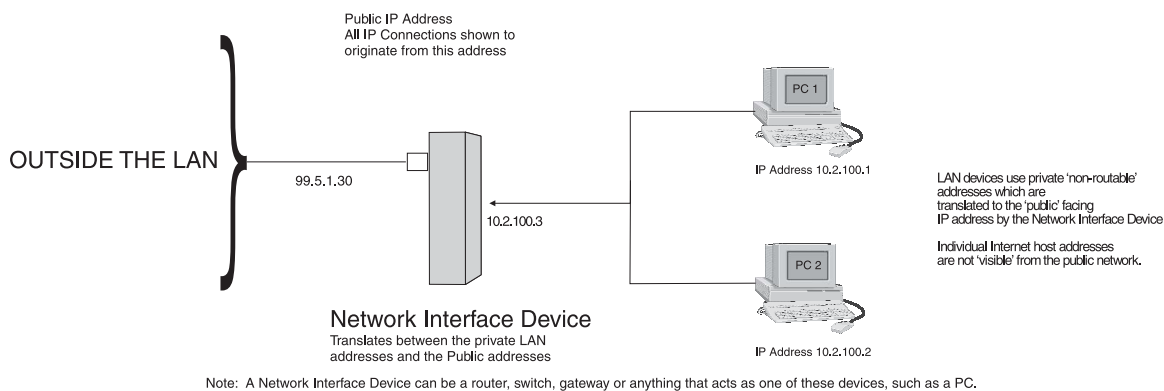

FIGURE 15. Network Address Translation
Figure 15 shows LAN IP Addresses using a common IP Address, 10.2.100.X (192.168.X.X is another common address). Most devices are shipped with these addresses as their default. It is recommended to use these addresses for LANs.
Using the initial IP Address, then converting it to a valid WAN IP Address is how the **Network Address Translation (NAT)** works, in theory. Once the IP Address is changed, it is up to the network interface device (such as a router, gateway, switch, etc.) to keep track of which computers are talking on which ports. For example, if two (2) local devices (PC1 and PC2 in Figure 15) both wanted to talk via port 1031, then the network interface device would have to change one (1) of the port requests to the next available port, 1032.